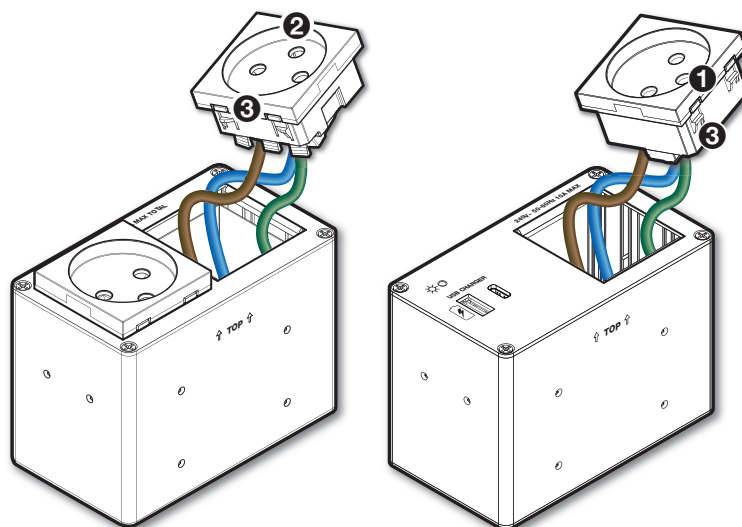

Figure 3. Position and Snap the AC Outlets into the Power Modules
5. Position the outlets to the AC 102 or AC+USB 311 module as shown in figure 3 at right.
- Place an outlet into the left slot of the AC 102 module or the right slot of the AC+USB 311 module (see figure 3, ①).
- Place the other outlet of the AC 102 module into the right slot 90 degrees counterclockwise (②).
6. Press each outlet into the slot until the flanges (③) on opposite edges of the outlet snap into place and the outlet is held securely.